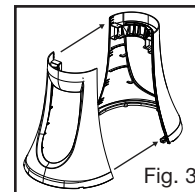

Fig. 3
- Remove 2 thumb screws from the base and set aside. Align the front and back base pieces and gently push until pieces snap securely together (Fig. 3).